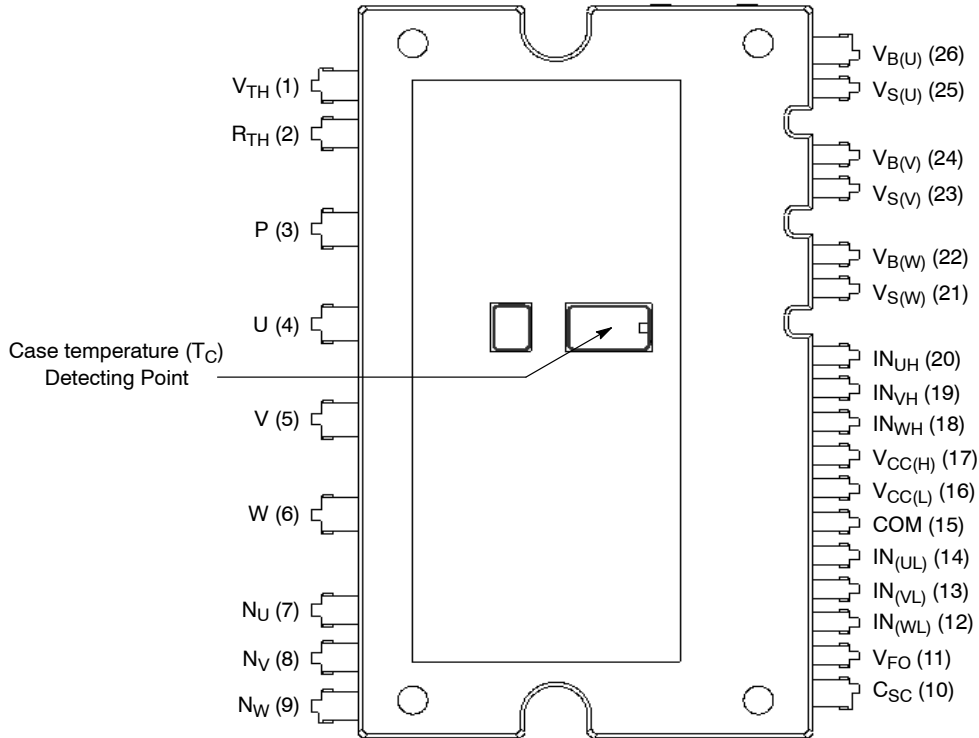

Figure 2. Top View
2. For the measurement point of case temperature (T_C). Please refer to Figure 2.